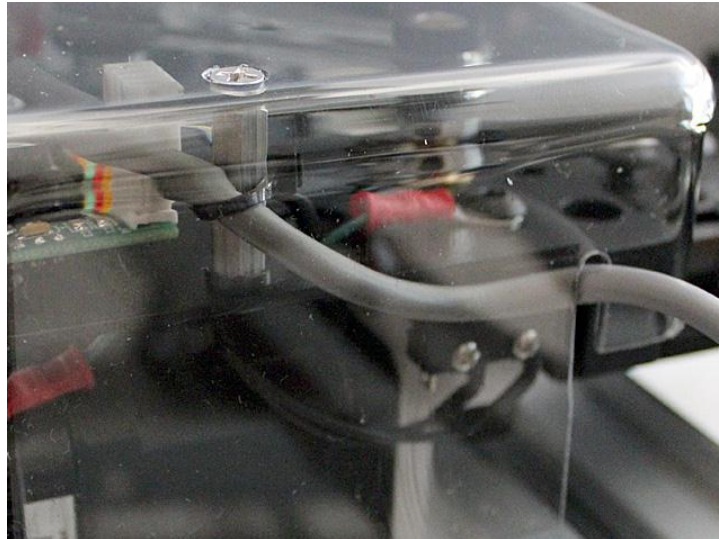

Fig. 22
- Put the plastic covers on the motors. Pull up the cable in the slot at the side of the cover as Fig. 22 shows.